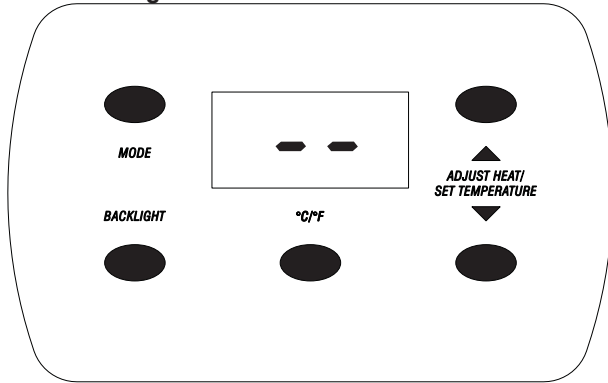

Figure 9
- Each light will flash four times then the unit will enter remote mode standby. While in remote mode standby, the green LED will flash slowly and the display panel will show a double dash “ - - “. See Figure 9.